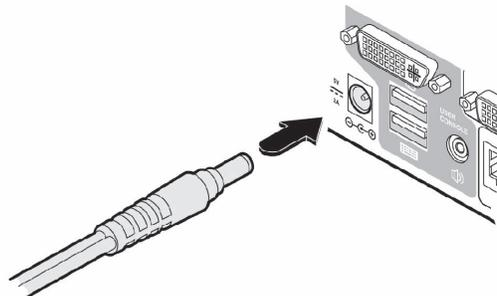

FIGURE 3-11. CONNECTING THE POWER ADAPTER
1. Attach the output lead from the power adapter to the 5V socket on the rear panel of the unit. See Figure 3-11.